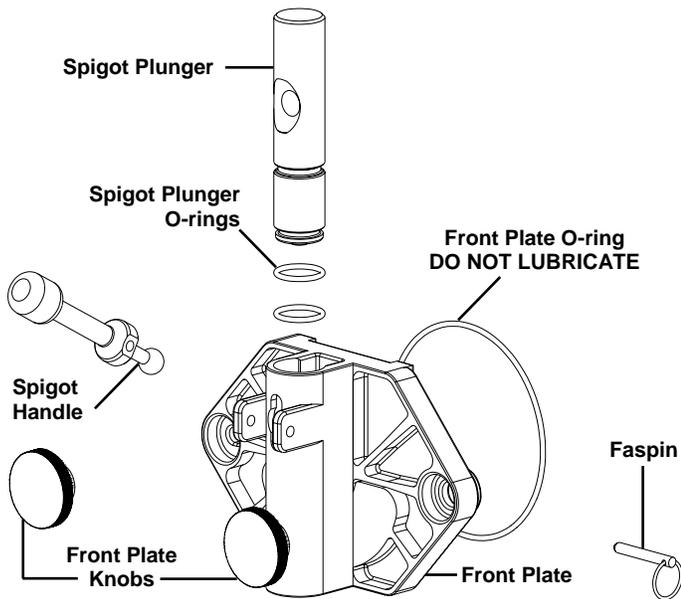

Fig. 3
6. Remove the front plate assembly and disassemble (Fig. 3).
3. Assemble the front plate assembly. **DO NOT LUBRICATE THE LARGE FRONT PLATE O-RING** (Fig. 3).